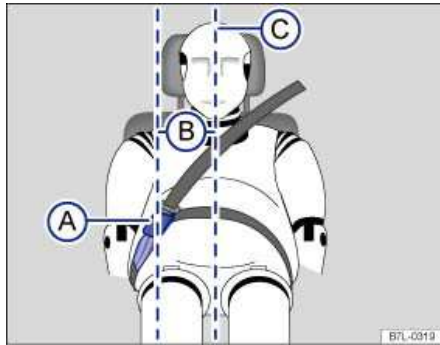

Fig. 56 Positioning of the safety belt extender.
Key to fig. 56:
- Never use a safety belt extender if the distance (B) between the front edge of the safety belt extender buckle (A) and the centerline of the person using the safety belt extender ⇒ fig. 56 (C) is less than 6 inches (15 cm).